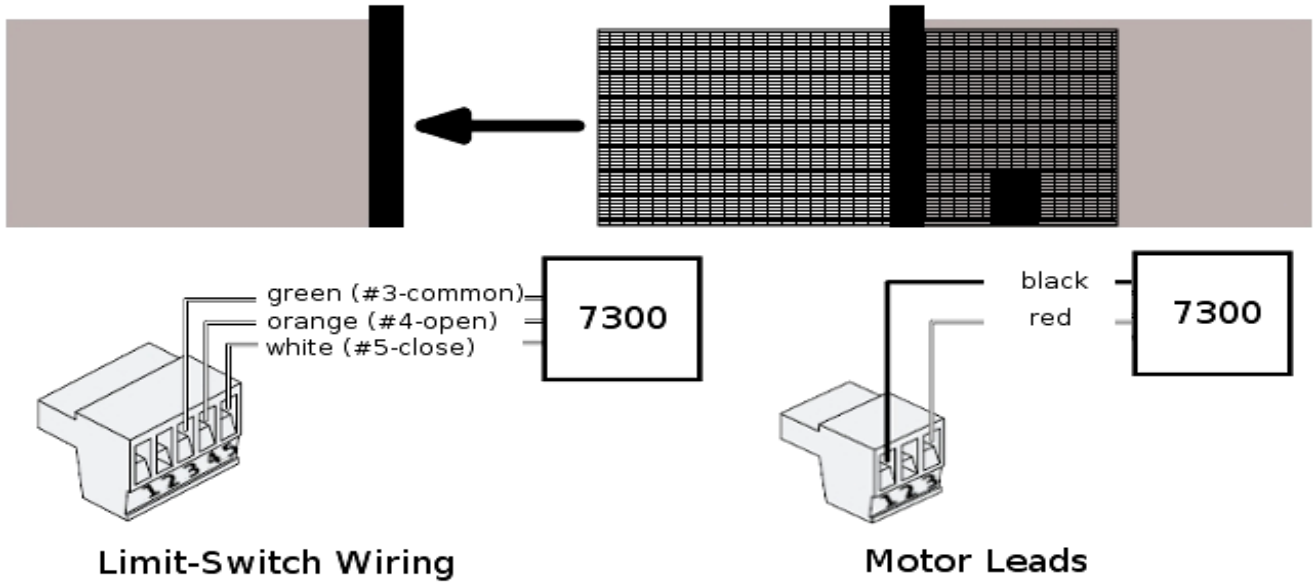
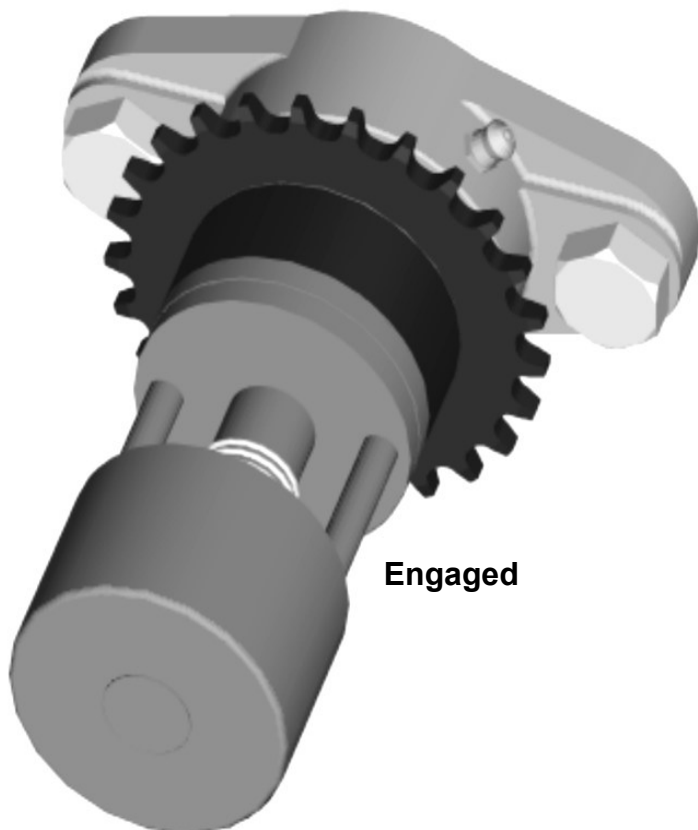

Figure 14: limit switch wiring for left hand operation
Figure 17: Quick Release Engaged
4. Manually move the gate mid-way and engage mechanical release (see Figure 17 Quick Realse Engage). Test motor direction by pressing OPEN. If the gate instead CLOSES swap the RED and BLACK motor leads shown in Figure 14 & 15, 7300 MOTOR WIRING DIAGRAM. Using the OPEN button on the front of the Control board, hold the button down until the gate reaches the fully intended open position.